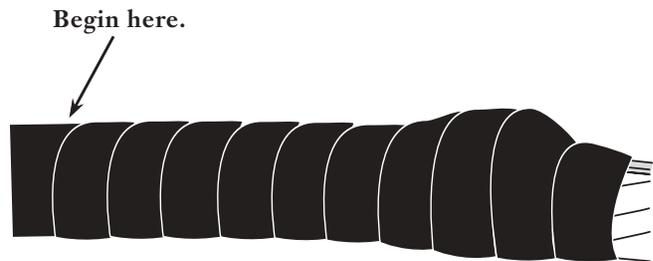

Figure 14
- Step 6** Beginning approximately 1/2 inch over the edge of the cable sheath, wrap the tape several times around the stranded buffer tubes until you have covered approximately 1/2 inch beyond the cable tie (Figure 14).